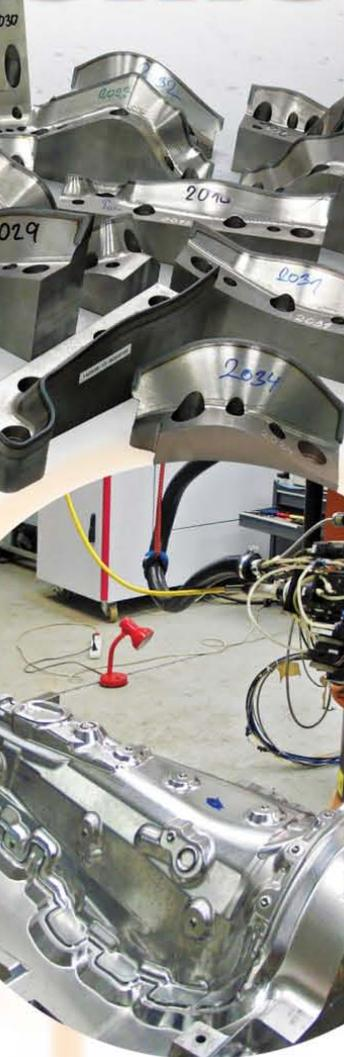

FIGURE 1. Segments for cutting tool with hardened blades.
- 1) Cutting edges (pinch) for plastic materials. Such tools can consist of a lot of segments or one big piece that weighs tons. They are used for forming hot plastics and cutting them in one step by press. Plastics can contain reinforcing filler such as glass fibers, and cladding is applied to their surface. All this has to be cut perfectly, so sharp and hard blades are necessary (see FIGURES 1 and 2).